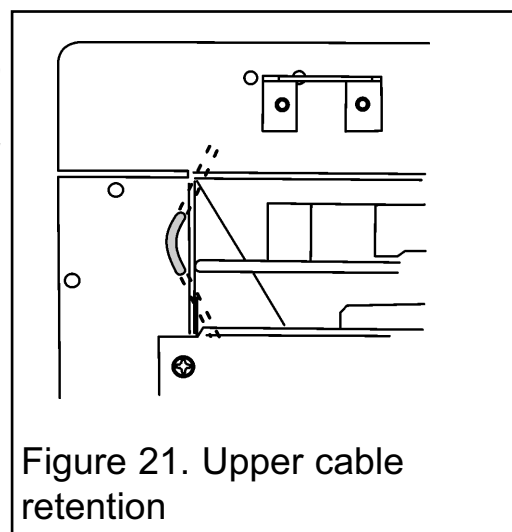

Figure 21. Upper cable retention
5. The convection box has two holes at each side of the convected air opening. Insert one end of each cable (one cable each side) from the back through the lower of the two holes and return the end through the upper of the holes (See figure 21). Give the cables a pull so that they grip against the convection box flanges.